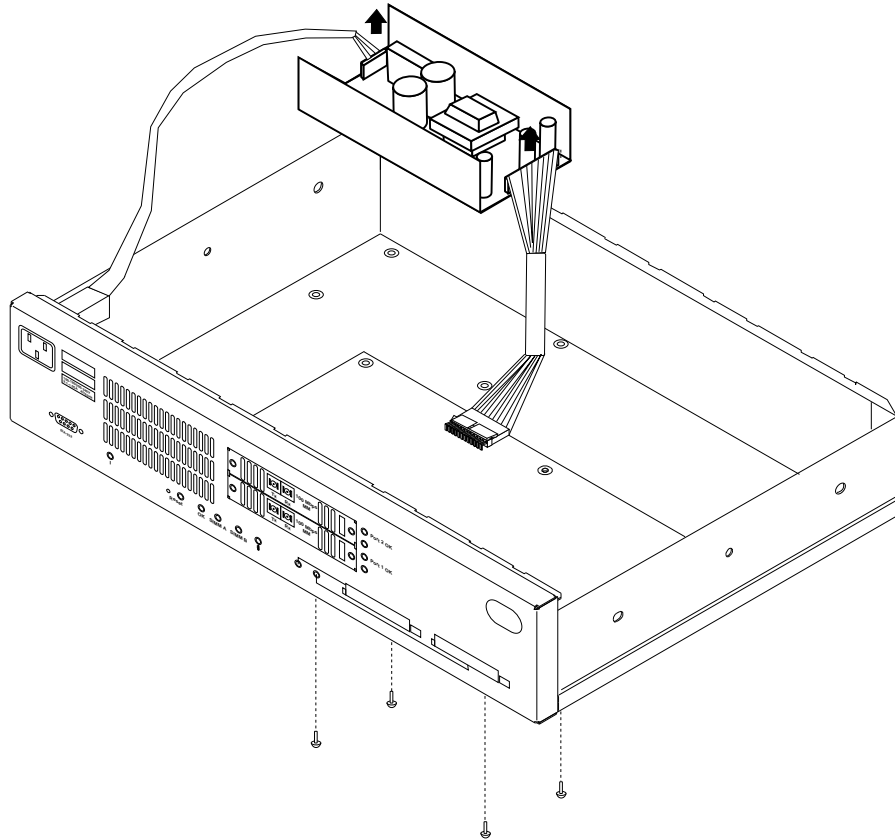

Figure 6-2. 8210 MSS Server Power Supply
- 1** With the top cover off, set the MSS Server on its edge where you can see the four screws that fasten the ac power supply in place (from the bottom side). See Figure 6-2.